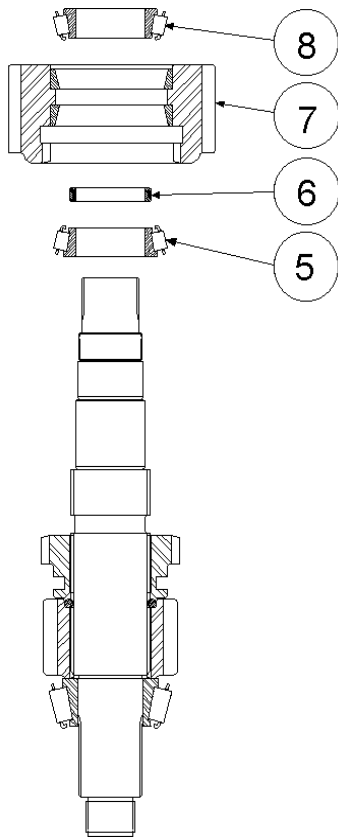
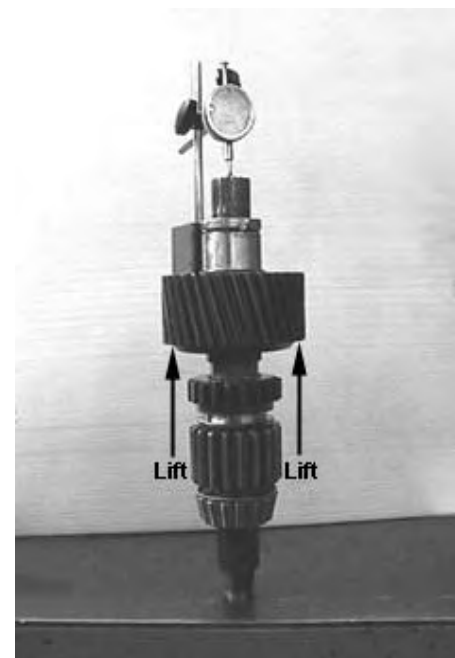

Fig. 35
Fig. 38
5. Install the remaining parts onto the shaft in the order shown in *Fig. 35 & 36*.
7. Check gear end-float using a dial indicator as shown below. Clearance should be .000 to .002 inches **loose**. If the end-float is not within the specified limits, (see page 8) another bearing spacer (#6 Fig 35) will need to be selected. See *Fig. 38*.